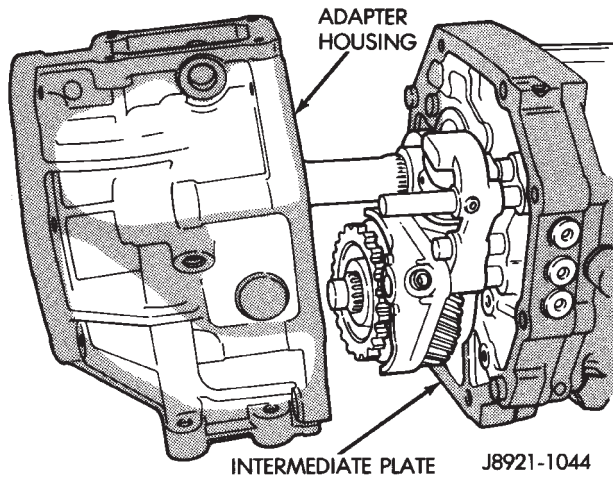

Fig. 29 Remove Adapter/Extension Housing
(17) Remove adapter/extension housing (Fig. 29).
(18) On 4x2 transmissions;